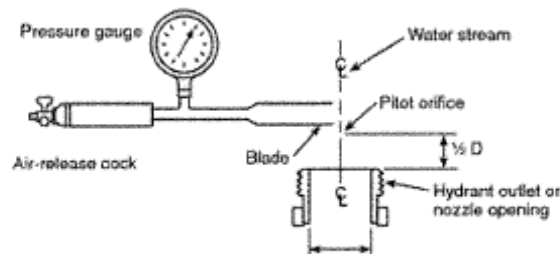

FIGURE 4.6.9 Pitot Tube Position.
- I. With wet barrel hydrants, the valve for the flowing outlet should be wide open to give a more streamlined flow and a more accurate pitot reading (See figure 4.6.9 Pitot Tube Position).